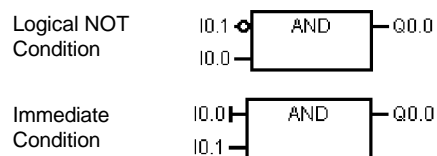

Figure 5-5 FBD Conventions
- ☐ Negation bubbles: The logical NOT condition or inverted condition of the operand or power flow is shown by the small circle on the input. In Figure 5-5, Q0.0 is equal to the NOT of I0.0 AND I0.1. Negation bubbles are only valid for Boolean signals, which can be specified as parameters or power flow.
- ☐ Immediate indicators: As shown in Figure 5-5, the FBD editor displays an immediate condition of a Boolean operand with a vertical line on the input to an FBD instruction. The immediate indicator causes an immediate read from the specified physical input. Immediate operators are only valid for physical inputs.